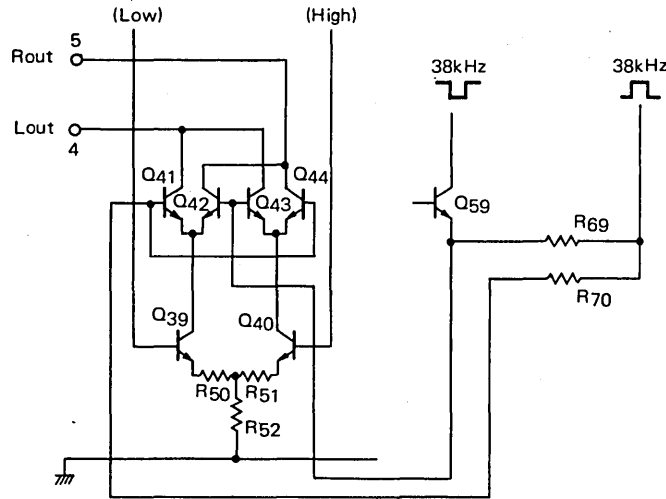

Fig. 6 Demodulator Circuit.
Fig. 6 is a stereo demodulator circuit. The circuit consists of a common double-balanced type detector circuit, and the stereo signal is injected into the lower transistors Q39 and Q40 while the 38kHz subcarrier is injected into the upper transistors Q41, Q42, Q43, and Q44. Stereo demodulation is accomplished by the subcarrier switching the above transistors. R50, R51, and R52 are feedback resistors inserted for the purpose of cancelling the cross talk components produced during switching. The subcarrier is a 50% duty cycle 38kHz wave obtained from a bistable multivibrator (flip-flop) circuit, into which a 76kHz signal produced by the VCO is injected. In both the μ PC587C2 and μ PC1026C the stereo lamp and stereo demodulation are synchronized and accomplished by Q59. The base of Q59 is controlled by the stereo lamp circuit, and when the stereo lamp is turned ON, Q59 will also be turned ON and a 38kHz subcarrier of reverse phase will be injected into the demodulation circuit, Q41, Q44 and Q42, Q43. On the other hand, when the stereo lamp is turned OFF Q59 is also turned OFF, and an in-phase 38kHz subcarrier is injected into Q41, Q44, and Q42, Q43 so that a monaural wave is obtained from output terminals (4) and (5).
(3) Lamp Driver.